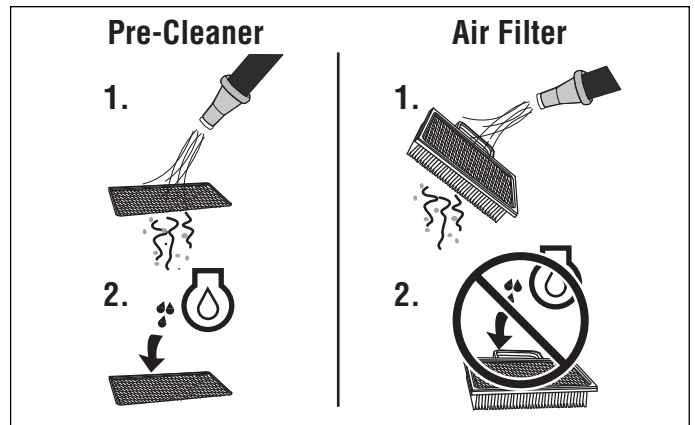

Figure 31. Air Filter Service
1. Wash the pre-cleaner in liquid detergent and water (see Figure 31).
1. If stamped "Washable," the filter can be washed with warm water and mild soap (see Figure 31).